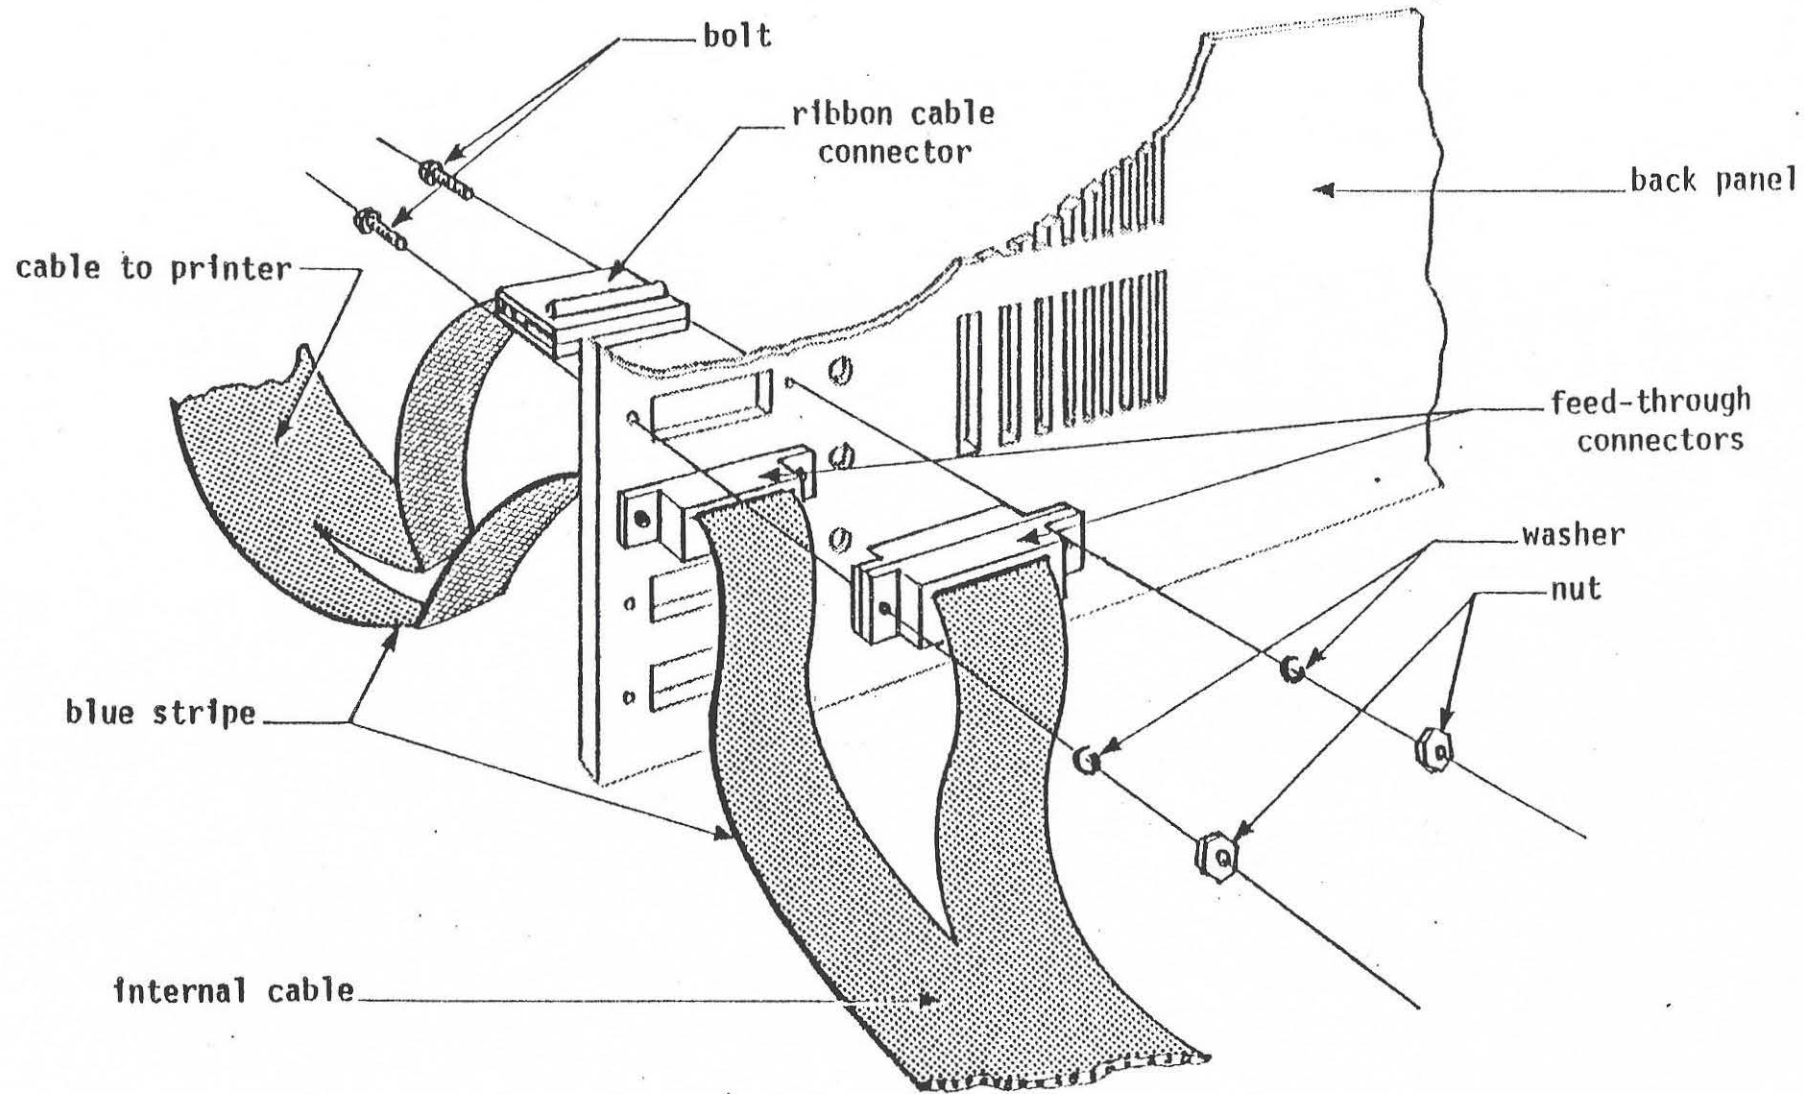

Figure 3.
A. Insert the 50-pin connector of the shorter section of cable into connector P6 so that the edge of the cable marked with the blue stripe is toward the front of the chassis. Insert the connectors on the other end into the back panel feed-through connectors as shown in Figure 3.